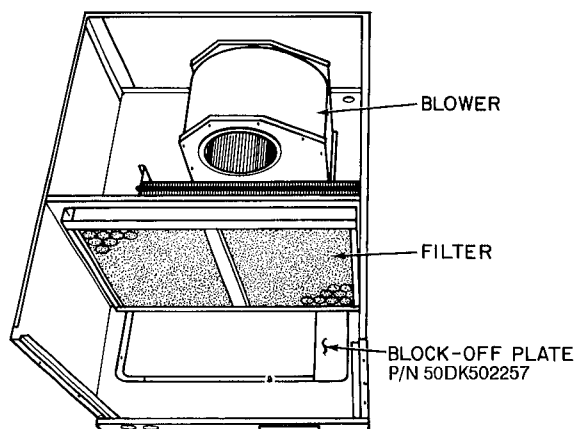

Fig. 15 – Vertical Discharge Block-Off Plate (Size 012 Only)
4. On 012 units, install vertical discharge block-off plate over duct openings. See Fig. 15.